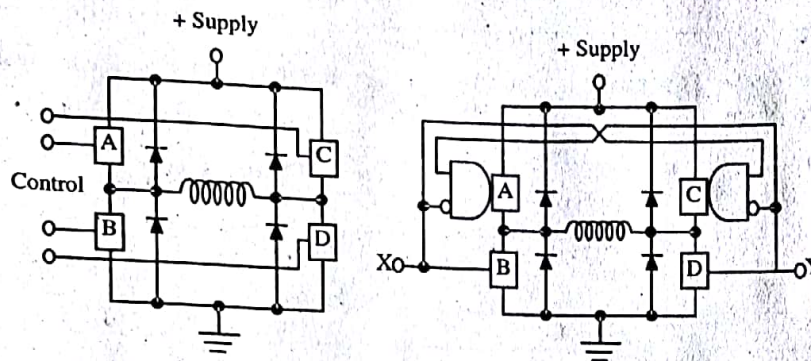

Figure 2.15
- 2) **Bipolar Driver:** In bipolar winding current flows in both directions as shown in Figure 2.15. Unipolar winding can be configured into bipolar if the centre lead is ignored. Bipolar drives are most widely used drives for industrial applications. Winding is changed by shifting the voltage polarity across the winding terminal. To change polarity, a total of four switches are needed forming an H-bridge. The bipolar drive method requires one winding per phase. The motor winding is fully energized by turning on one set (top and bottom) of the switching transistors. Comparison between different drivers is tabulated in table 2.2.